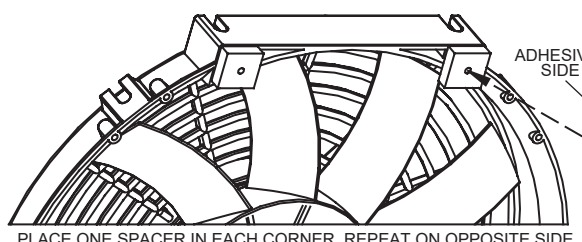

FIGURE 1
2. Peel backing and stick 4 square spacers on fan shroud as shown in **Figure 1**. Install the 4 round spacers on the tie straps as shown.